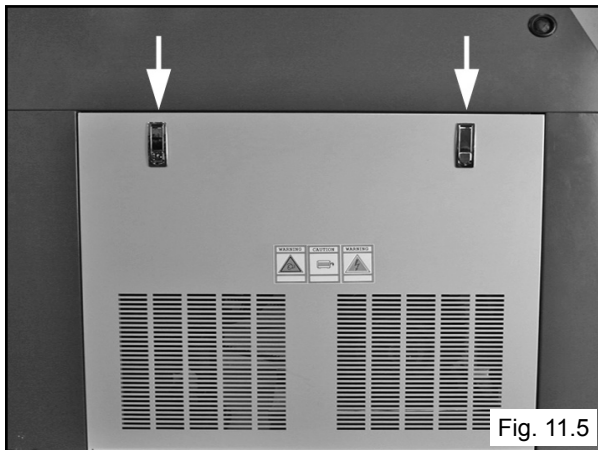

Fig. 11.5
1. Open Drive Belt Side (right) panel. (See Fig.11.5)